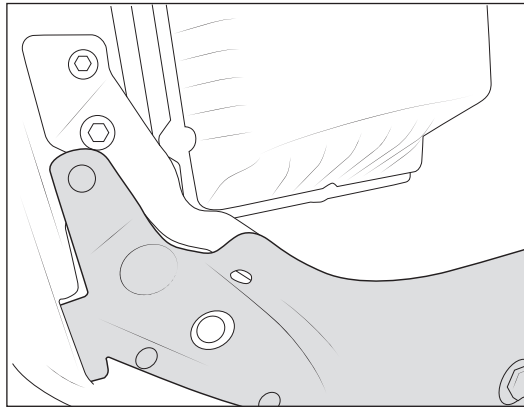

Figure 18
13. Reinstall the plastic radiator cover and trim slightly to clear the AEV radiator support bracket (fig. 18).